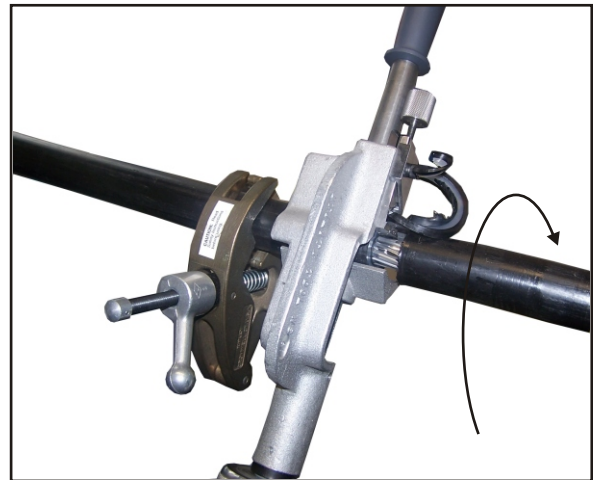

Fig 4: Step 9 - Full insulation chip being removed.
9. Rotate the tool and remove the full insulation chip (Fig.4). Rotate the tool 1 turn while it bears against the stop clamp and the insulation chip will break off. (Fig.5)